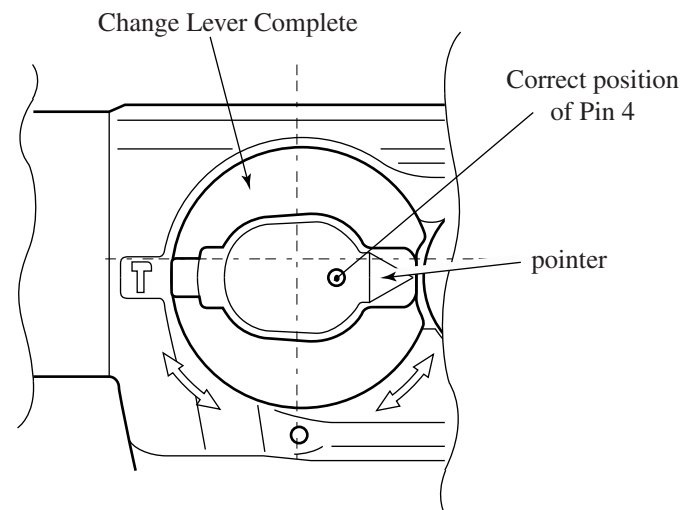

Figure 3
2. Set securely Change Lever Complete in place with its pointer pointing to the right. (See Fig.3.)